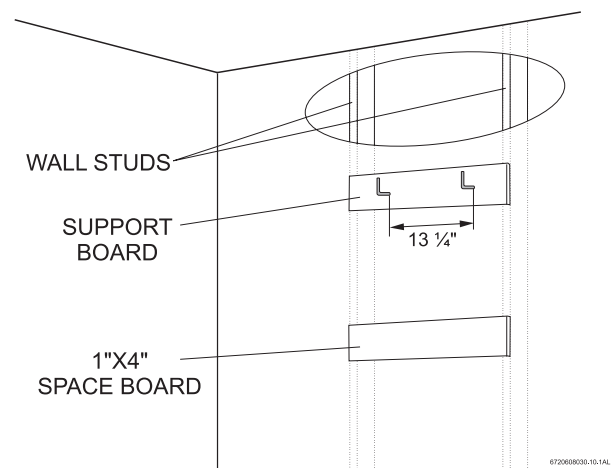

Fig. 7 Support board
The heater must be mounted on a wall using appropriate anchoring materials. If wall is sheathed with plasterboard, it is recommended that support board(s), either 1x4's or 1/2" (minimum) plywood first be attached across a pair of studs and then the heater should be attached to the support boards, see Fig. 7.
- ▶ Secure the two included L shaped hooks to wall studs or support board 13 1/4" apart. (See Fig. 7).